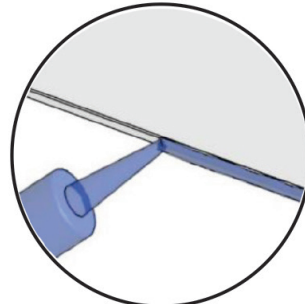

FIG 26.
- Remove shelf and put a thin bead of adhesive down both edges of shelf (FIG 26).